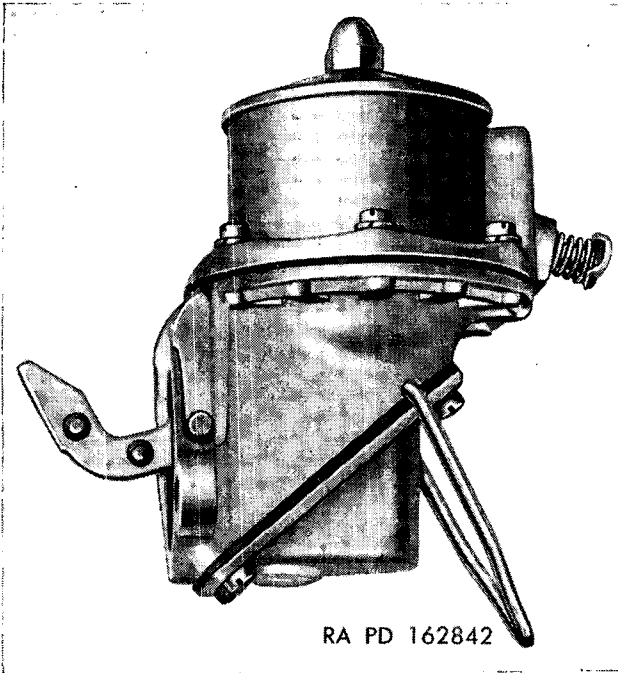
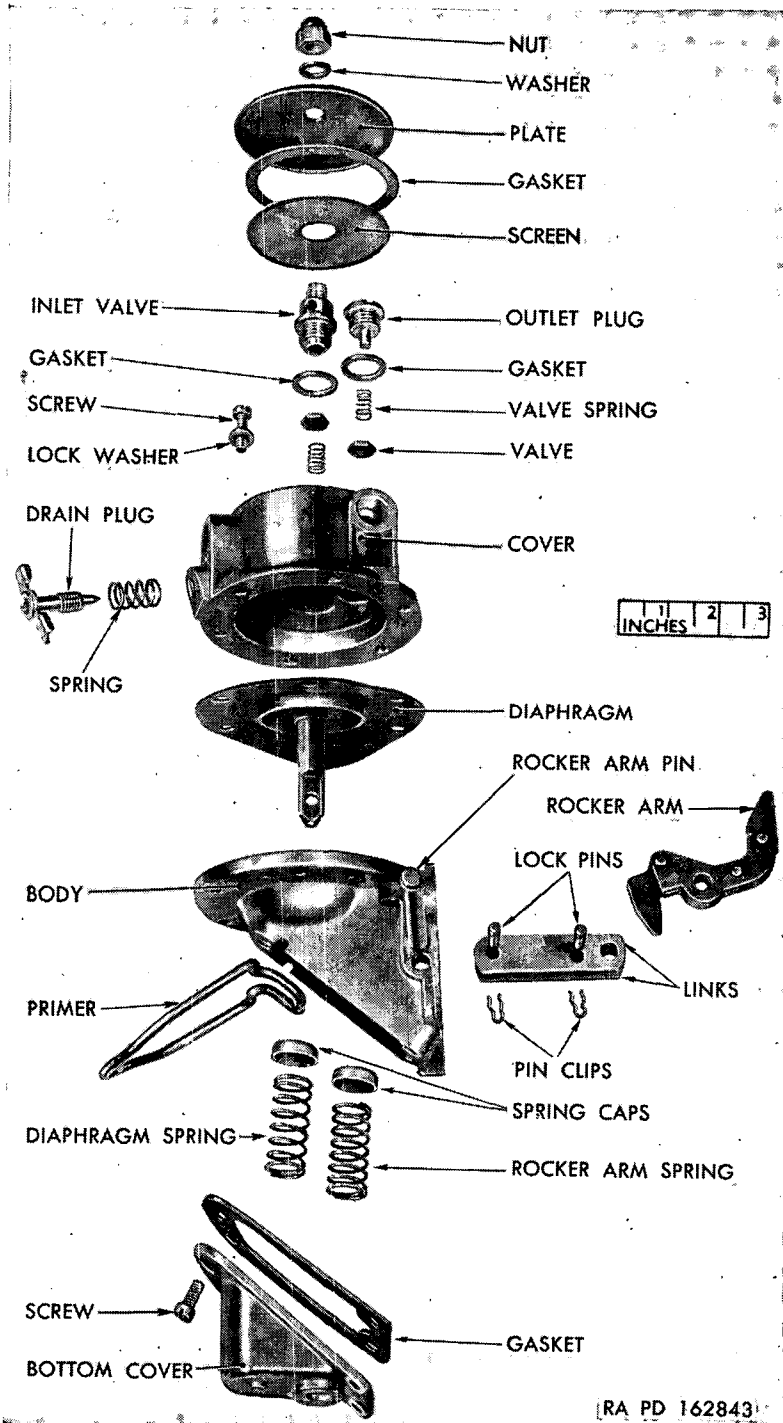

Figure 16. Fuel pump, series S.
Figure 17. Fuel pump—disassembled (typical series S construction).
- (1) Mark edges of top cover and body (fig. 17) of series S fuel pump (fig. 16) with a file. Mark at heat shield stud, if used.
a. Assemble Body (fig. 17).
- (1) If used, assemble upper spring over diaphragm pull rod and push pull rod through hole in pump body. Assemble sheared ends of two links to flat of pull rod (sheared link corner toward top of pull rod) and retain with one link pin and two clips. Install link pin through center hole of link and retain with two clips.
- (2) Install rocker arm between links with hooked end over center link pin. Assembly is correct when center link pin is below center line of links. Aline rocker arm pin hole with hole in body and drive in rocker arm pin. Install washer over counterbored end of pin and spread pin at counterbore to retain in position.
- (3) Place diaphragm spring over inner boss of lower cover and the rocker arm spring over outer (recessed) boss. Place spring caps over springs and gasket on lower cover. Suspend body with lower cover flange down (install priming lever if used) and place lower cover with associated parts against body. Spring caps must seat against bottom of pull rod and hook of rocker arm. Retain lower cover with three screws.